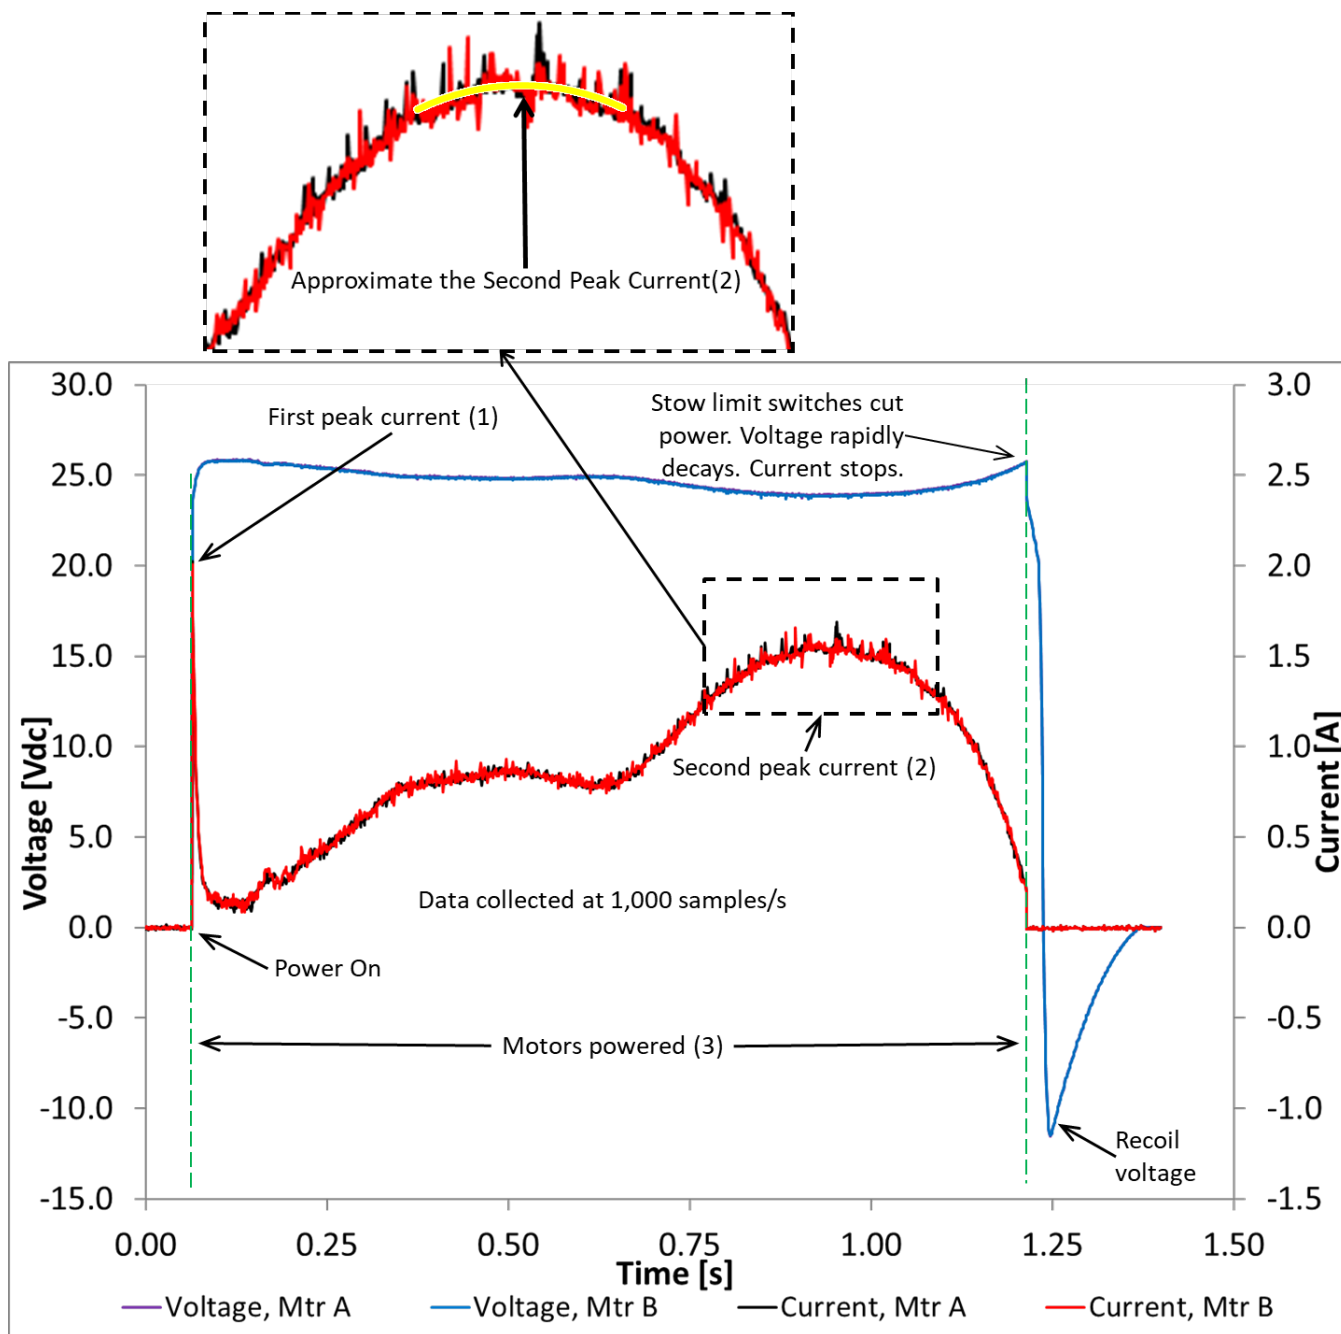

Figure 9-5: Example Stow voltage and current profiles at NTP
9.4.6	<p>To Stow the Lightband:</p> <ol style="list-style-type: none"> 1. See Figure 9-5 and Table 9-1 for the anticipated current draw and power duration. 2. Designate a person to watch the power source output display. 3. Turn on the power source output. 4. Verify the oscilloscope trigger is active and ready to acquire data. 5. Activate the timer relay. This will send power to the motors and Stow the Lightband. <p>Manually cut power if the current limit is reached or the timer relay runs longer than specified. Then contact PSC per section 5. A visual inspection of the Lightband may be performed, but do not change configuration.</p>
9.4.10	<p>Figure 9-5 shows example Stow voltage and current profiles. Complete Table 9-1 to verify all parameters are within tolerance. Single data point exceedances are acceptable. Also, a slow sample rate may alias data. Do not filter data. Contact PSC if a discrepancy is found.</p> <p>Remember to account for non-zero offsets in the voltage or current measurements.</p>